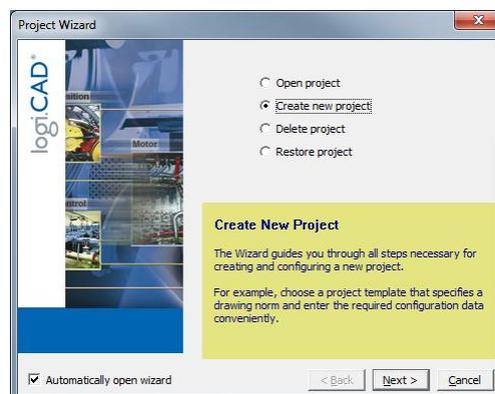

Figure 9: logiCAD project wizard
- The project wizard starts automatically as shown in Figure 9.